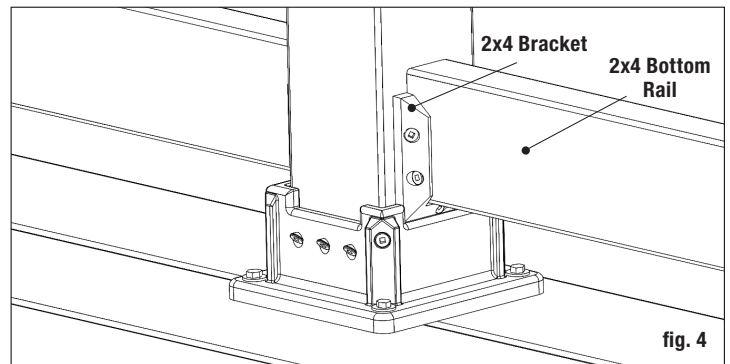

fig. 4
Step 5 Attach the post in position. *Note: Post Mount is designed to work with 2x4 brackets. The brackets nest into the Post Mount to center the bottom rail and space it 3" from surface of deck. (fig. 4)*